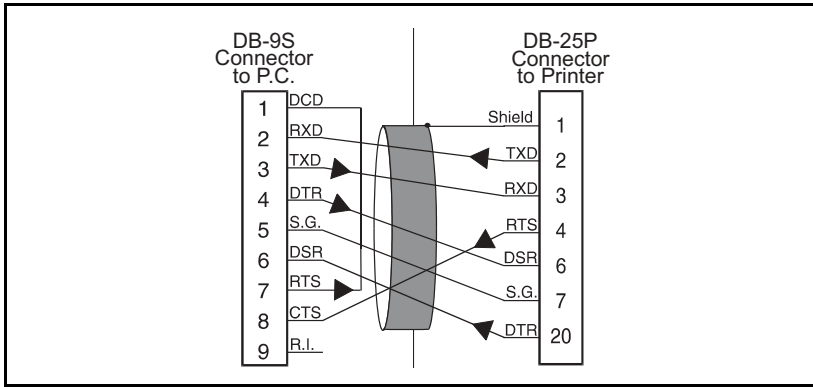

Figure 36
- **9-pin to 25-pin cable** – (null modem cable) must have a 9-pin “D” type (DB-9S) connector on the end that is plugged into the serial port at the computer and a 25-pin “D” type (DB-25P) connector on the other end that is plugged into the connector at the rear of the printer. Figure 36 shows the required cable connections.